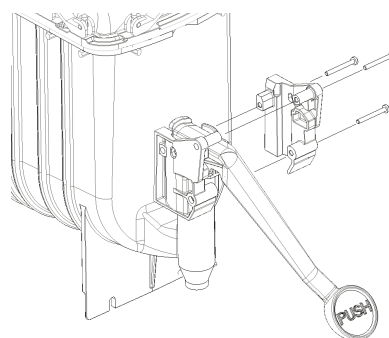

Fig. 23
- Remove the handle blocking system by loosening the three fixing screws (fig.23).